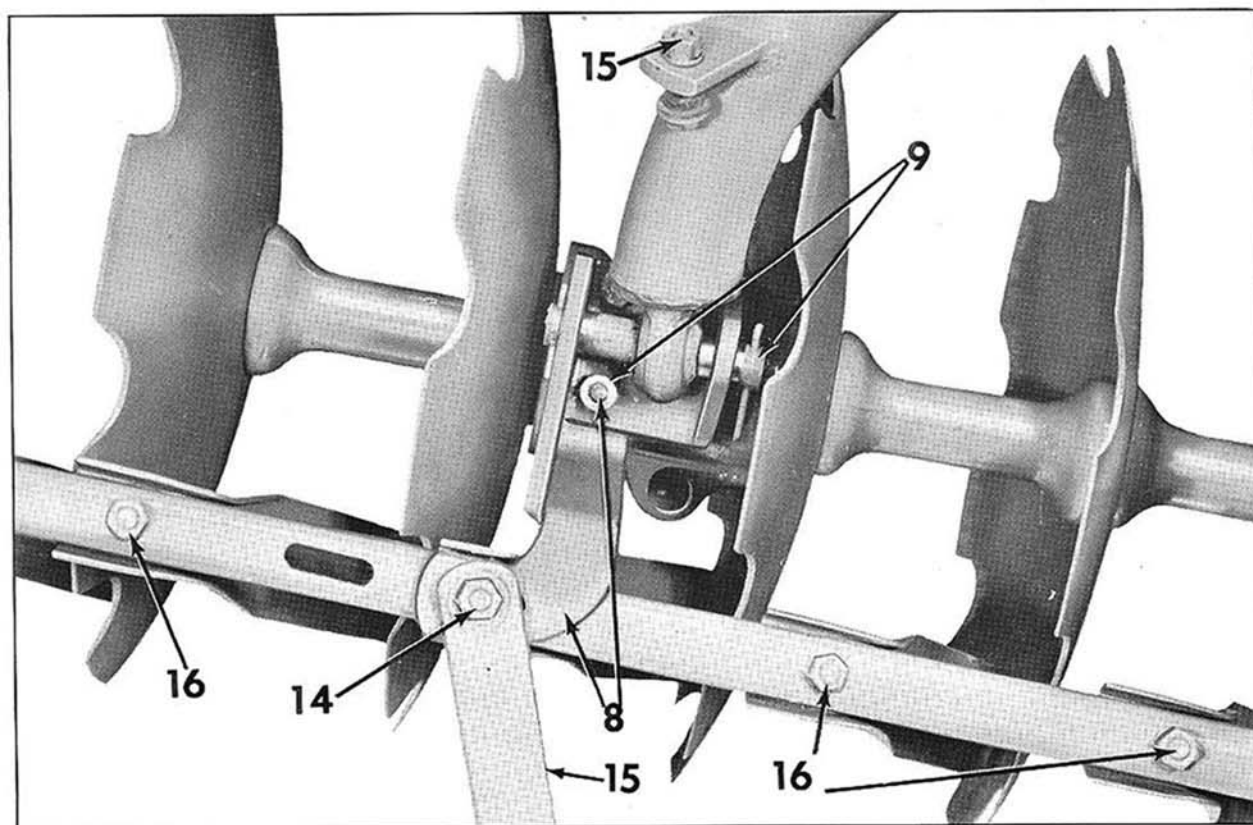

Fig. 6
8. All four gangs are marked to indicate their relative position on the completed assembly. The markings distinguish front and rear assemblies, and whether the gang belongs on the R.H. or L.H. side of the assembly. Position scraper support on bolts protruding from the outer bearing box. Assemble with angle in the direction as shown in Fig. 6.
9. Before positioning main frame on the outer bearing box, insert and spread cotter pin in pivot pin; place pin through outer bearing bracket (the outer bearing bracket is 2-15/16" wide to distinguish it from the inner bracket) and the ball joint. Place assembly on bearing box and bolt into place. Insert 7/8" x 4-5/8" pin through scraper support and lock into place with cotter pin. (See Fig. 6.)